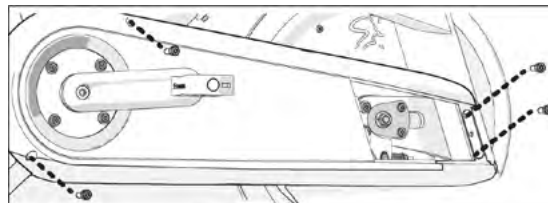

Figure 3
2. Loosen the four bolts holding on the cover and remove it (Figure 3).